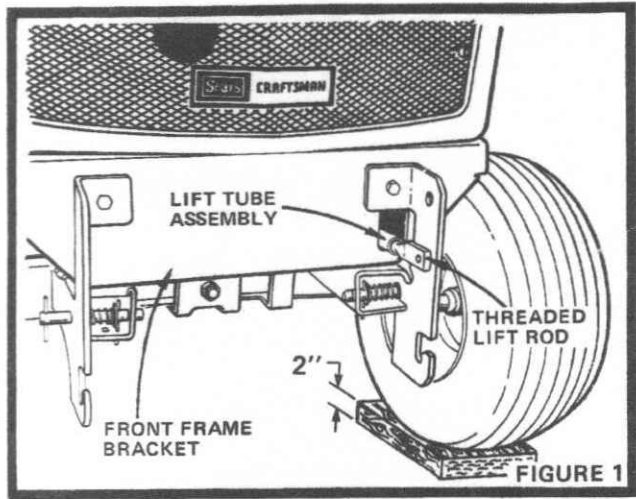

FIGURE 1
1. Place (2) 2" blocks of wood under Front Wheels (Fig. 1). Set brake to prevent tractor movement.
2. Insert Lift Tube Assembly (Fig. 1) in opening (left side) of Front Frame Bracket, threaded Lift Rod to front.